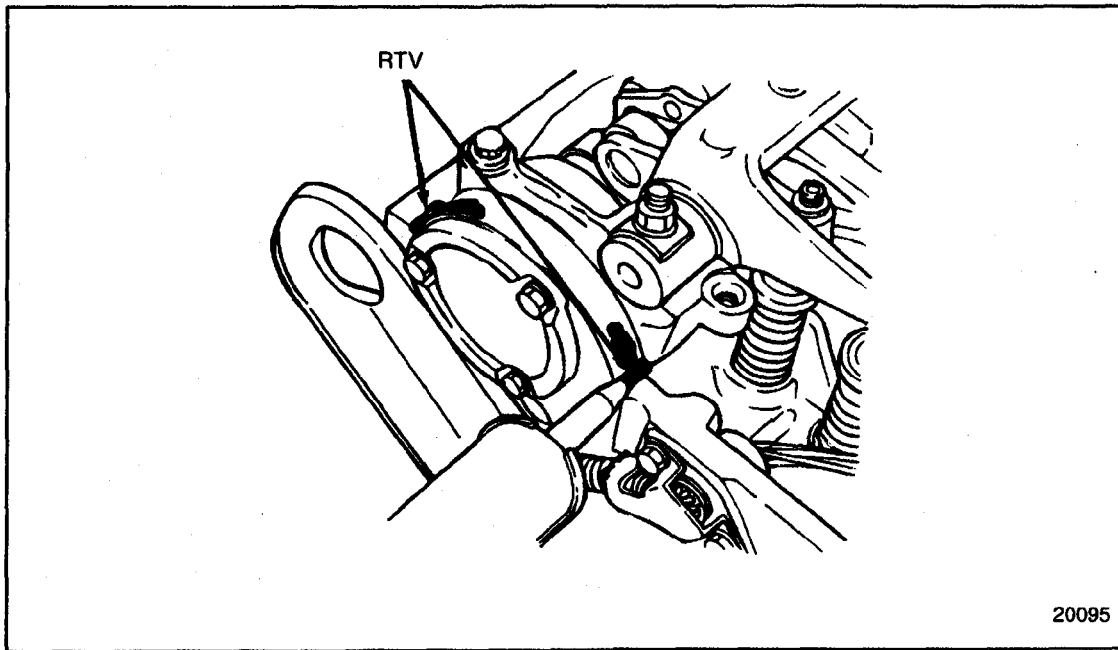

Figure 1-106 **RTV Installation**
5. Apply a small 4.75 mm (3/16 in.) fillet of RTV in the corners formed by the rear camshaft cap and the head, where the cover seal contacts. Repeat this procedure for the corners formed by the front camshaft cap and the head. See Figure 1-106.